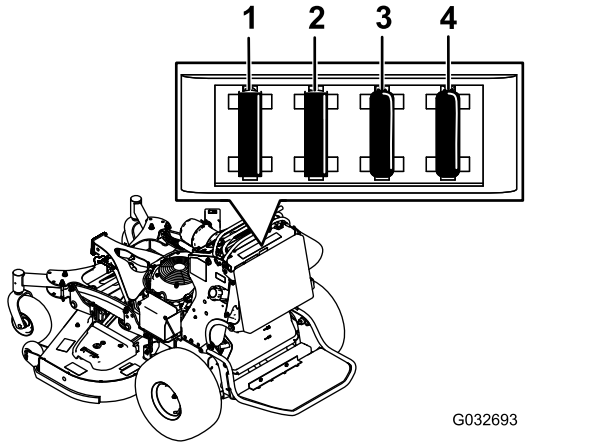

Figure 56
2. Pull out the fuse to remove or replace it (Figure 56).
Note: Ensure that the correct-size fuse is installed Figure 56.